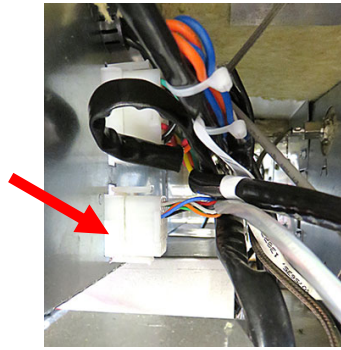

Figure 17
17. Accessing the rear of the control box from the side, unplug the bottom 12-pin plug (see Figure 17).